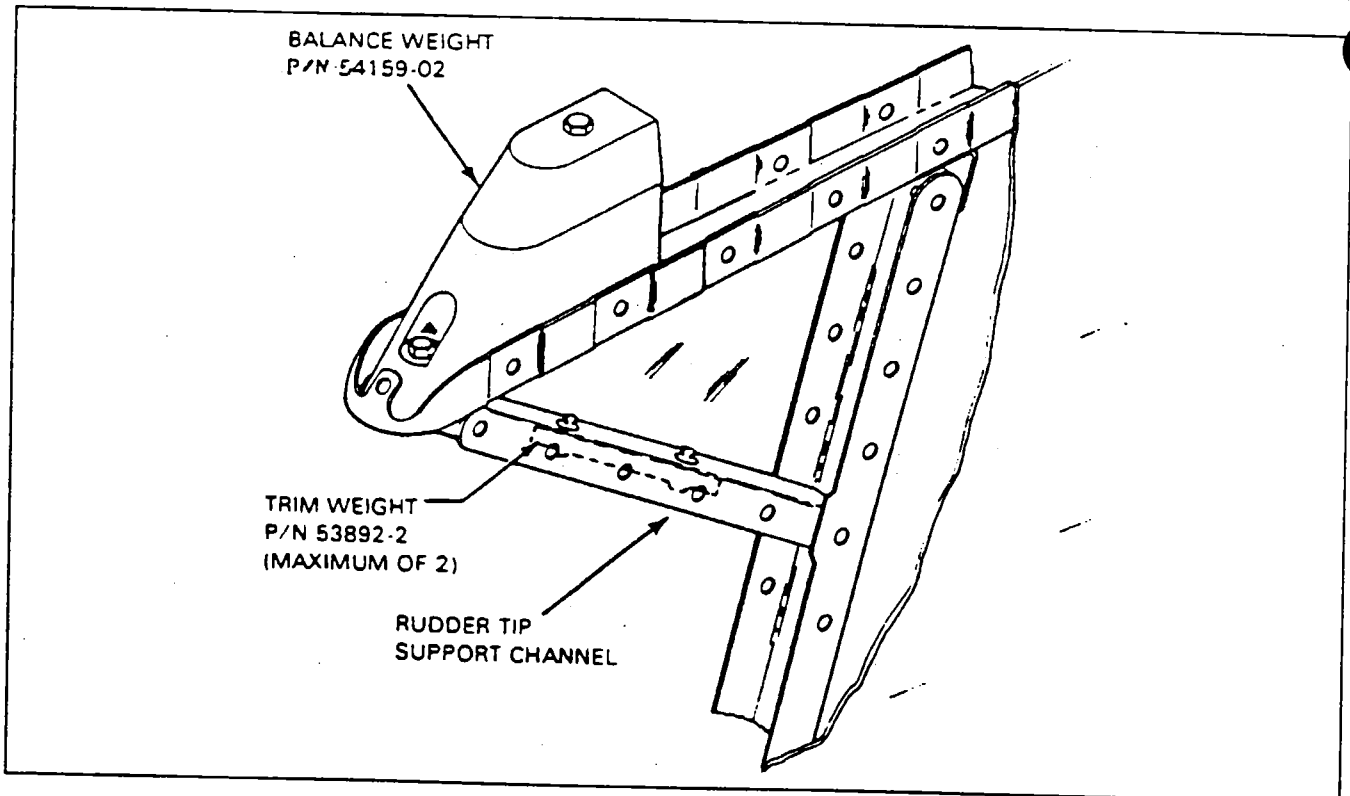

Figure 55-5. Rudder Balance Weight Location
9. For the rudder assembly, the trim weights are mounted below the rudder support channel. (Refer to Figure 55-5.)